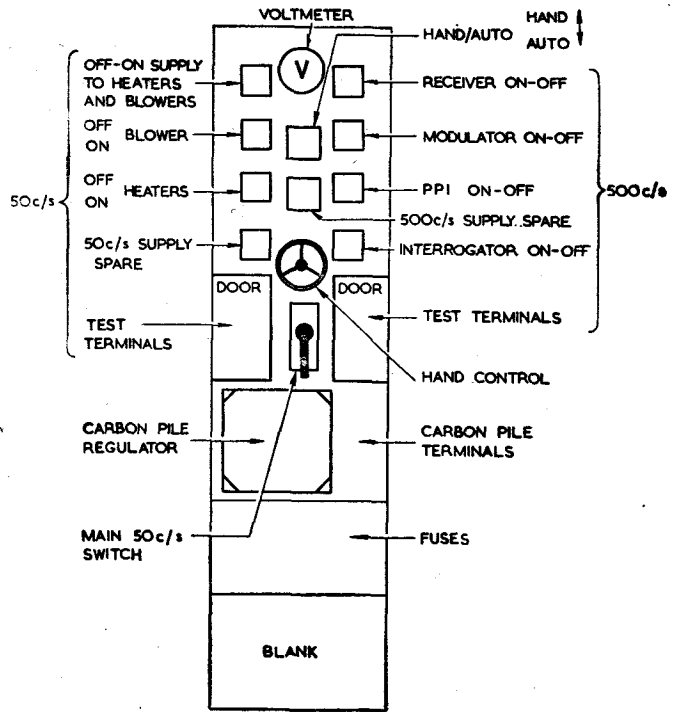
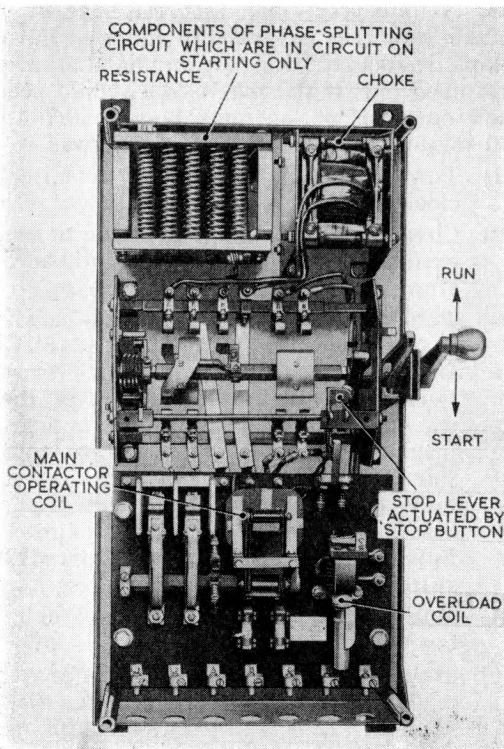

Fig. 4. Switchboard
Fig. 5. Starter panel
Switchboard and starter panel (fig. 4 and 5)
- (3) Hold down the handle at the right-hand side of the starter panel (*fig. 5*). If it will not go down, press the red button to release the handle. When the motor reaches full speed (after 30 sec. to one minute) push the handle smartly upward into the RUN position. The voltmeter (*fig. 4*) should now read 180V; if it is high or low, adjust the voltage regulator by means of the control on its front panel. Automatic regulation should normally be employed, but in the event of failure, use hand regulation as follows:—
- (4) Switch on the following:—